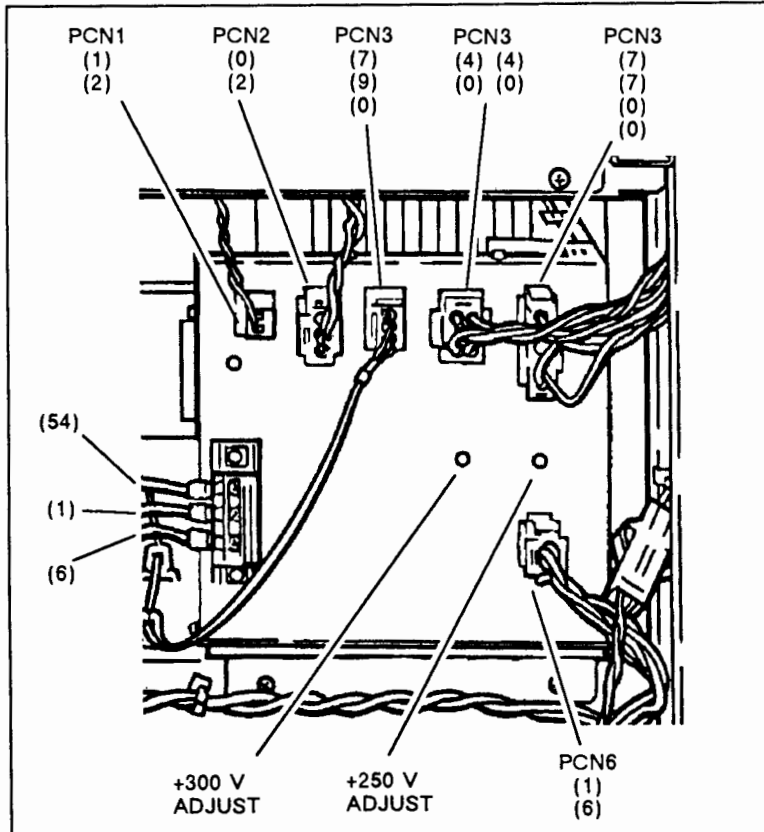

Figure 4-17. HPS1 Connectors
- a. With the rear cover open, remove connectors PCN4 and PCN5 from from the back of the HPS1 power supply. See Figure 4-17.
- c. Using the voltmeter, check the power supply output: See Figure 4-17.
1. PCN4 pin 1(+330V) to pin 3 (G)
4. PCN5 pin 2 (-250V) to pin 5 (G)